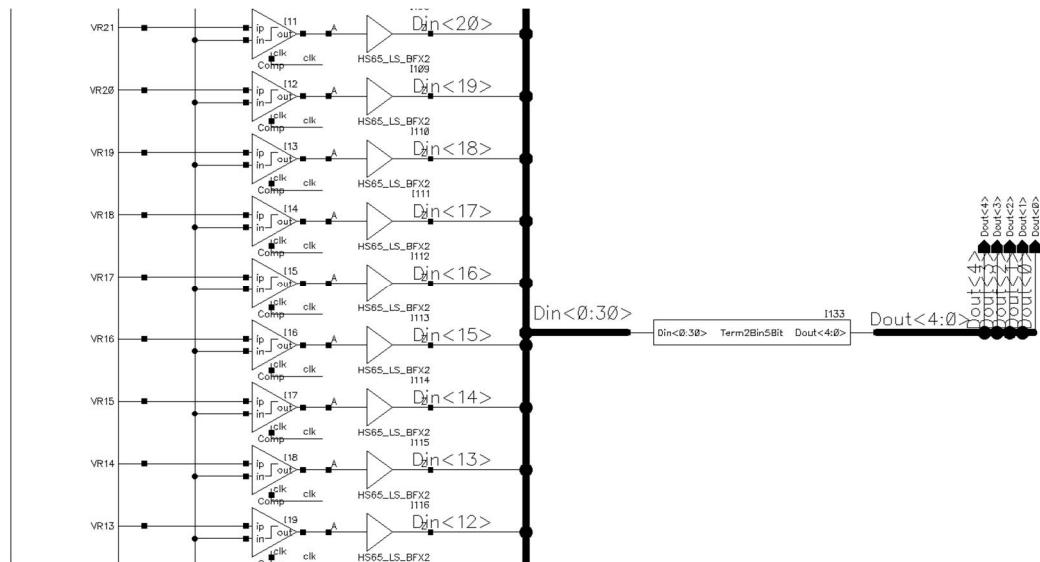

Figure 3. Partial schematic view of the flash ADC, FlashADC.
- a. Complete the 5-bit flash ADC design found in the schematic view of the cell **FlashADC**, using the analog blocks **Comp** and **RefLadder**, as well as the digital encoder **Term2Bin5Bit** (see Figure 3). **Term2Bin5Bit** assumes that the thermometric signal is made of zeros at the bottom and ones at the top. To drive the encoder, use buffers **HS65_GS_BFX2**, found in the library **CORE65GPSVT**, supplied by **STMicroelectronics**. **Term2Bin5Bit** is a **verilog HDL (functional)** description of a thermometer-to-binary encoder. Open the code and make sure that you understand what it does. **RefLadder** is a resistor ladder used to generate all reference voltages for the comparators.